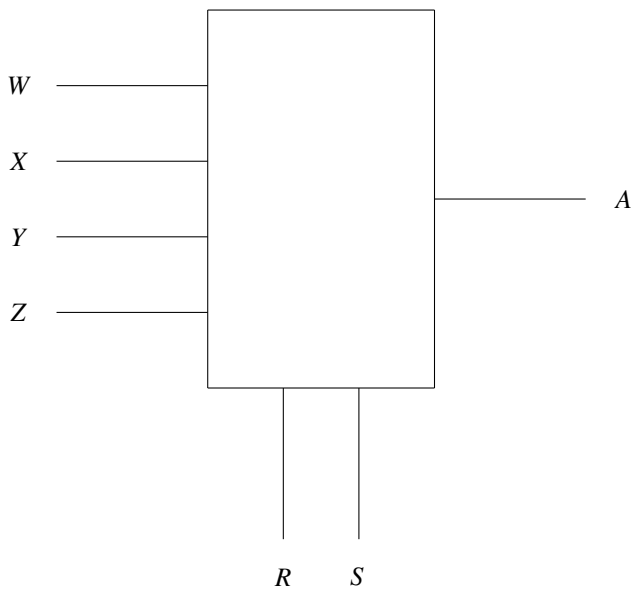

Fig. 4.12
25. Consider the 2-bit multiplexer(MUX) shown in Fig. 4.12. For output to be the XOR of R and S, the values for W, X, Y and Z are ? (GATE EC-2022)